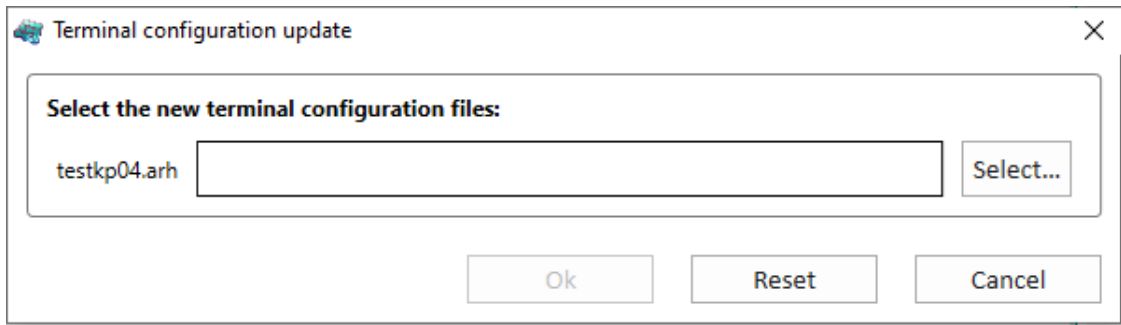

Figure 37 – IED configuration update window
3.2.3.2 Device configuration is replaced via menu item  → **Update configuration...** When this item is selected, a dialog box (figure 37) is displayed in which you must specify the path to the **xxxx.arh** configuration file. The name of the loaded configuration file must match the name of the configuration file on the device. If the configuration contains incorrect versions, an error message will be displayed.